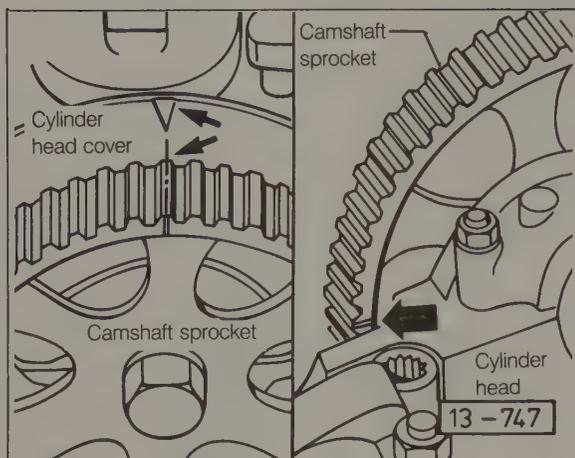
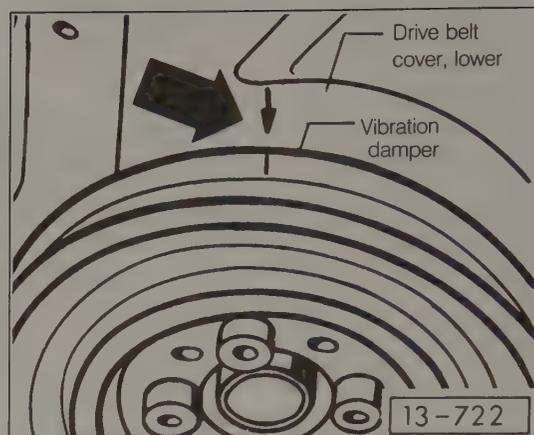
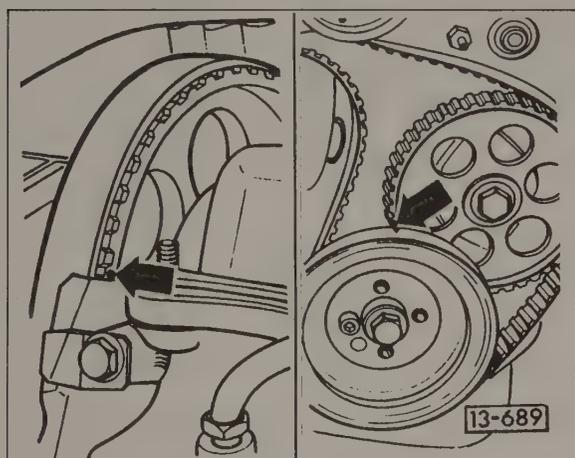

Fig. 4-2. Camshaft timing marks on 16-valve engine.
Fig. 4-4. Crankshaft timing marks on vibration damper and lower drive belt cover on 16-valve engines.
Fig. 4-3. Camshaft timing marks (arrows) for all except 16-valve engines.
1. Use a socket wrench to rotate the camshaft sprocket by hand until the timing mark is aligned. The timing marks for 16-valve engines are shown in Fig. 4-2. The timing mark for all other engines is shown in Fig. 4-3.
3. Use a socket to rotate the crankshaft and the intermediate shaft by hand until the timing marks line up. The timing marks for the crankshaft on 16-valve engines are shown in Fig. 4-4. The timing marks for the crankshaft and the intermediate shaft on all other engines are shown in Fig. 4-3, above.